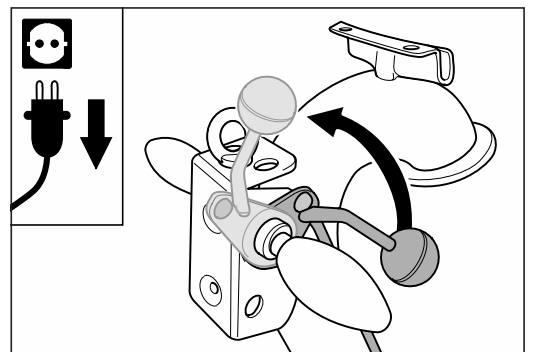

Fig. 8 Lift the sanding drum off the floor by turning the lowering lever at the handle upwards.
- 4 Lift the sanding drum off the floor by turning the lowering lever at the handle upwards (fig. 8).